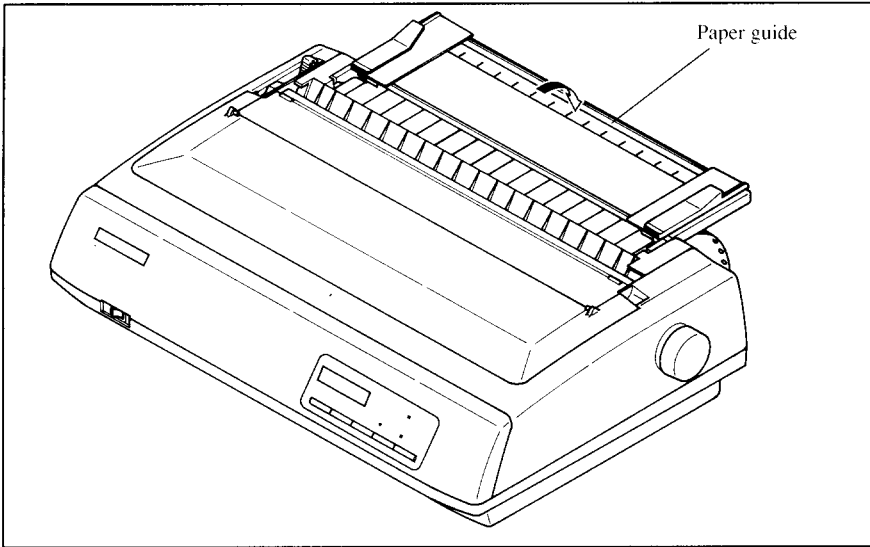

Figure 4-5. Mounting the paper guide for fanfold forms.
13. Close the rear cover and the transparent part of the front cover, then mount the paper guide in the horizontal position shown in Figure 4-5, so that it will separate the printed from the unprinted paper.